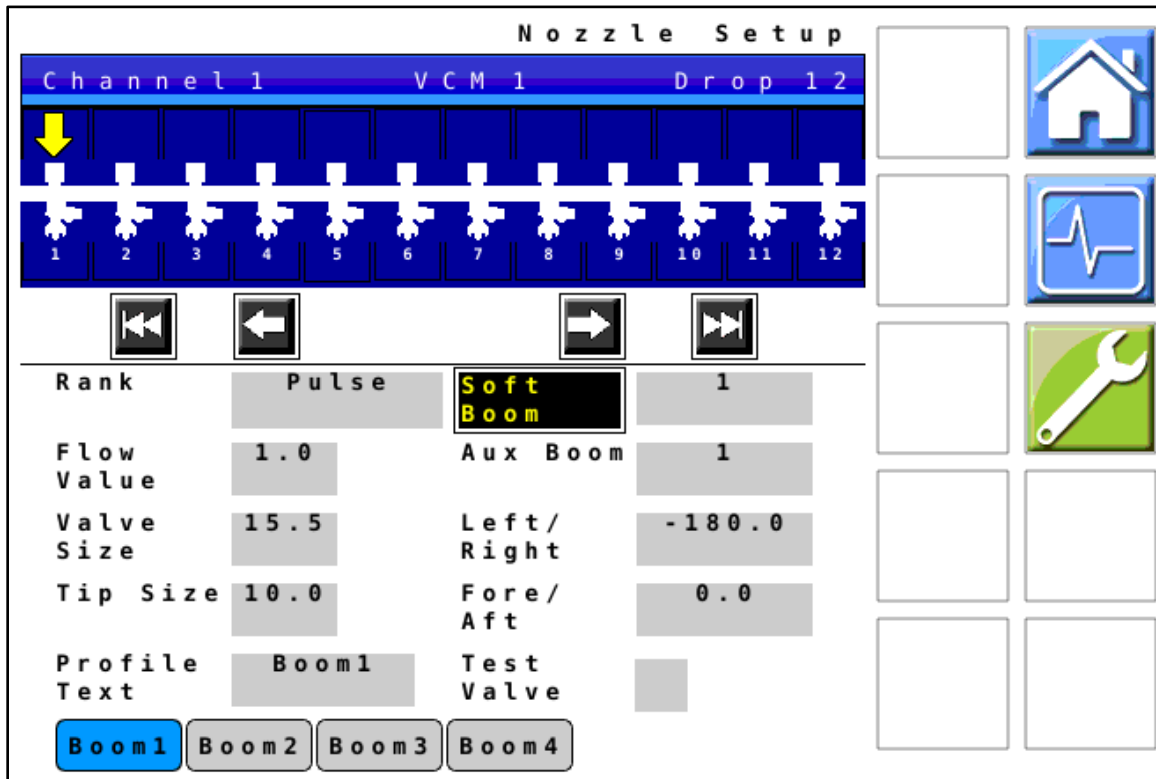

Figure 10 — Nozzle Setup
16. *Figure 10:* Use the Nozzle Setup screen to set up and name custom boom profiles.